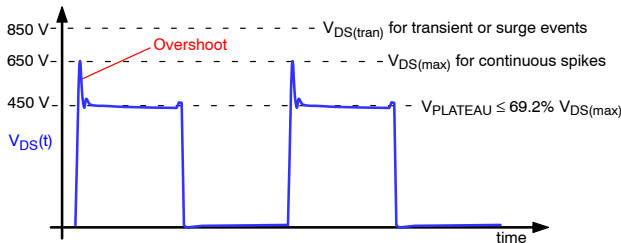

Figure 39. Drain-to-Source Voltage Definition
The NCP58920 has been designed to offer design margin to withstand transient and continuous voltage levels that are typically seen in single switch topologies, such as quasi-resonant (QR) flyback applications. The various voltage levels and recommended margins in a typical QR flyback converter is described using Figure 39. $V_{DS(TRAN)}$ rating is the voltage level of events that occur on a non-repetitive basis (occasional event), such as line surge, lightning strikes, start-up, over-current, short-circuit, load transient, and output voltage transition. $V_{DS(TRAN)} = 850$ V ensures device robustness and derating is not required for non-repetitive events when the transient time duration is <100 μ s. After the device is turned off, the energy stored in parasitic inductances (stray and leakage inductance of transformer and PCB layout) creates overshoot voltage stress $V_{DS}(t)$ that is applied to Drain-Source terminals. It is necessary to design a clamp circuit that limits V_{DS} continuous overshoot to $V_{DS(max)}$ 650 V level under the worst case steady-state operating conditions. After consuming energy from parasitic inductances, the device V_{DS} will drop to the level given by sum of the bus voltage and the reflected output voltage which is shown in Figure 39 as $V_{PLATEAU}$. It is recommended to design the system in such way that $V_{PLATEAU}$ level is maximally 69% of $V_{DS(max)} = 650$ V, thus $V_{PLATEAU} \leq 450$ V. The recommended DC Bus voltage, $V_{PLATEAU}$ (in Figure 39) is not guaranteed spec.